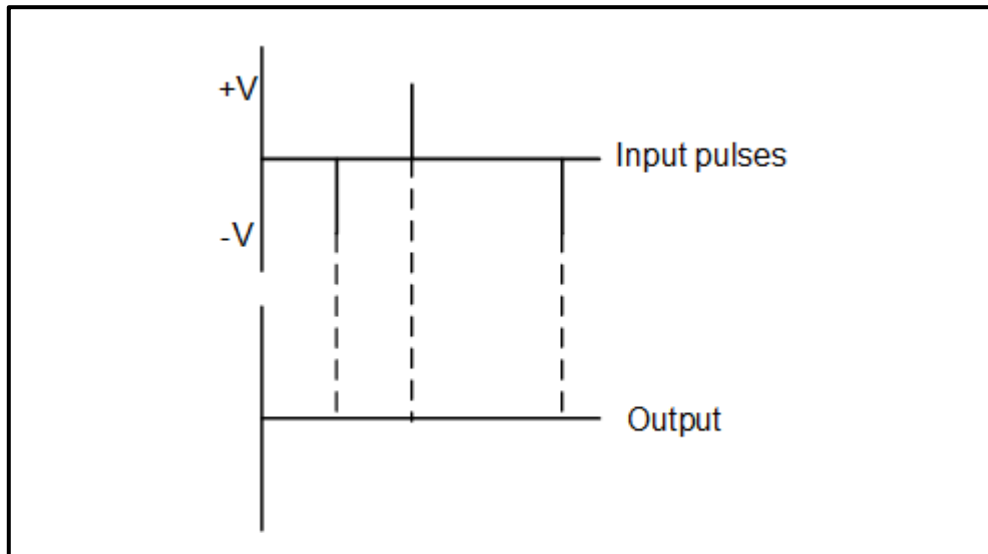

FIGURE 7.13.2
7.13.2 Draw the input trigger pulse in FIGURE 7.13.2 below and directly below that, on the same y-axis, the correct output in relation to the given input. Take the initial output voltage as maximum positive.